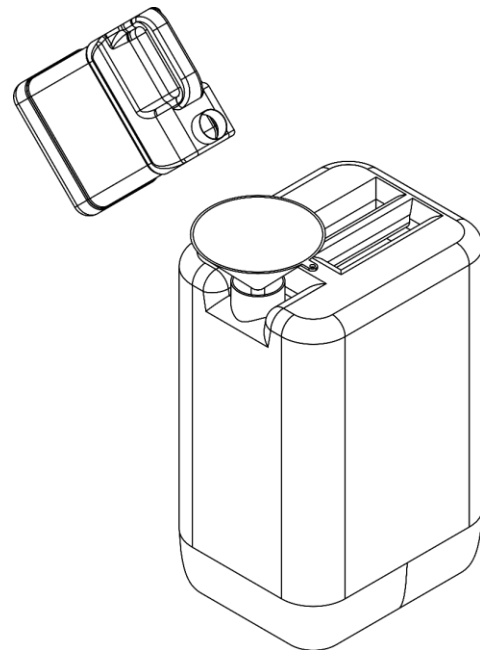

Fig. 17
- 05) Use a funnel to pour the fog fluid from the tank into original fog fluid jerry can, as shown in Fig. 17.